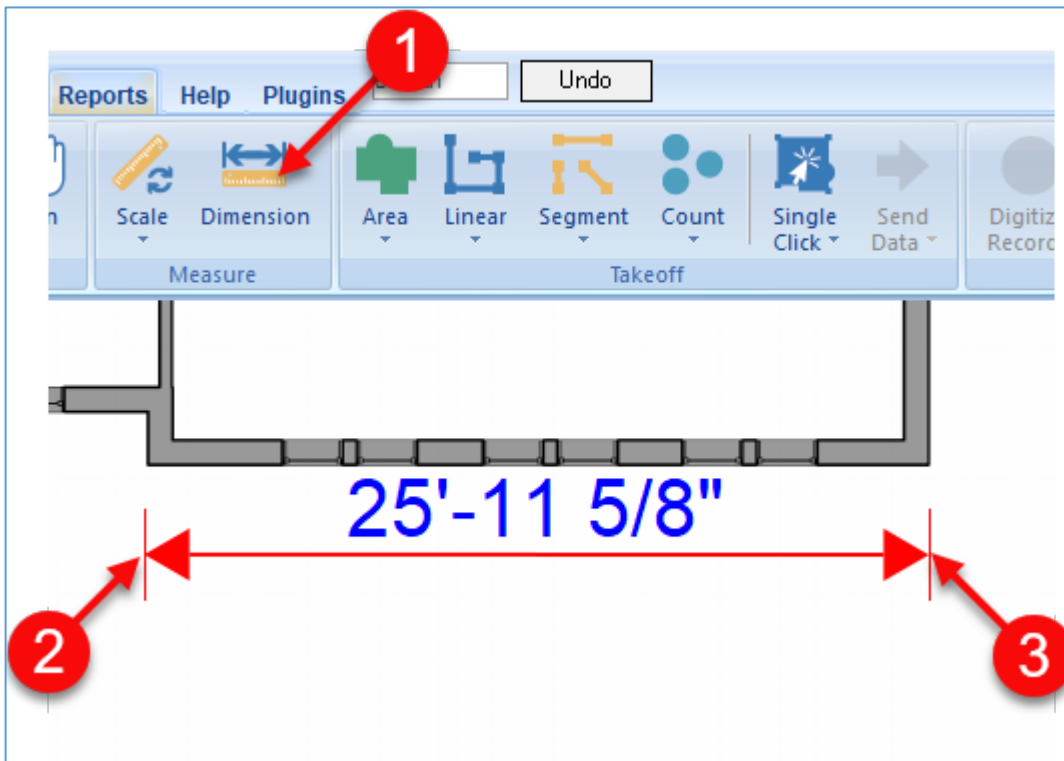

Figure 25-A
1. To add a dimension for a section of a building, click on the **Dimension** button on the **Home** tab ribbon-bar (Fig. 25-A).